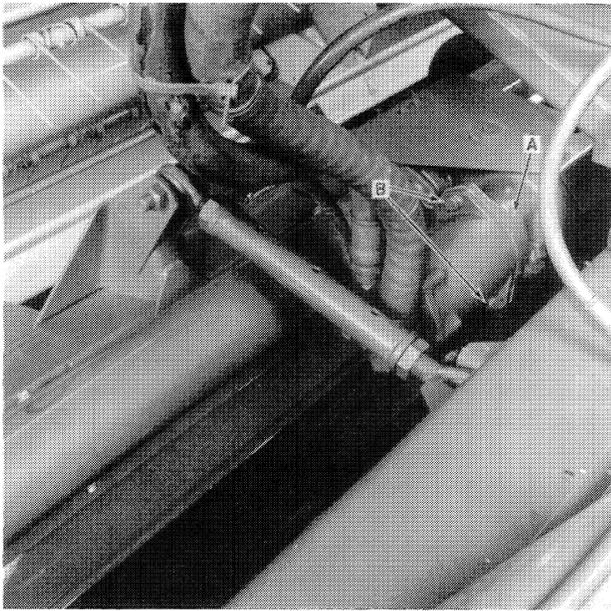

FIGURE 1-21
1. Drain the oil from the header drive gearbox, A, Figure 1-21. Be sure to refill the gearbox with oil after reinstalling the motor.